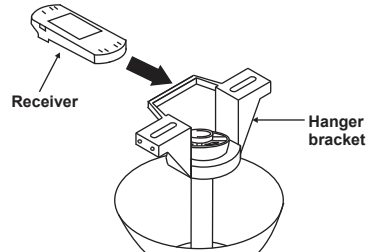

Figure 11
Step 1. (Fig. 11) Insert the receiver into the hanger bracket with the flat side of the receiver facing the ceiling.